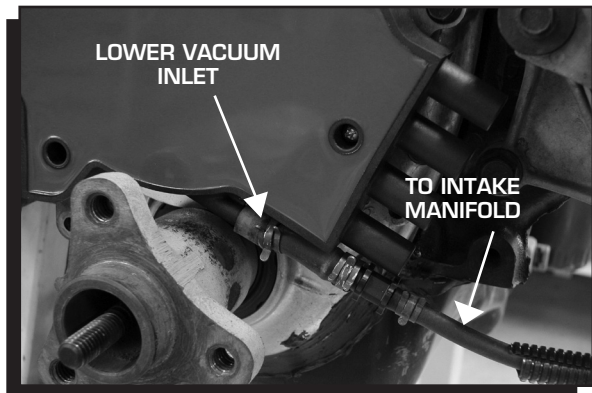

Figure 14 Install the Lower Vacuum Line.
23. Connect the fresh air lines to the top and bottom inlets on the distributor. The MSD Distributor has the fresh air inlet on the top of the housing. (See Figure 14).